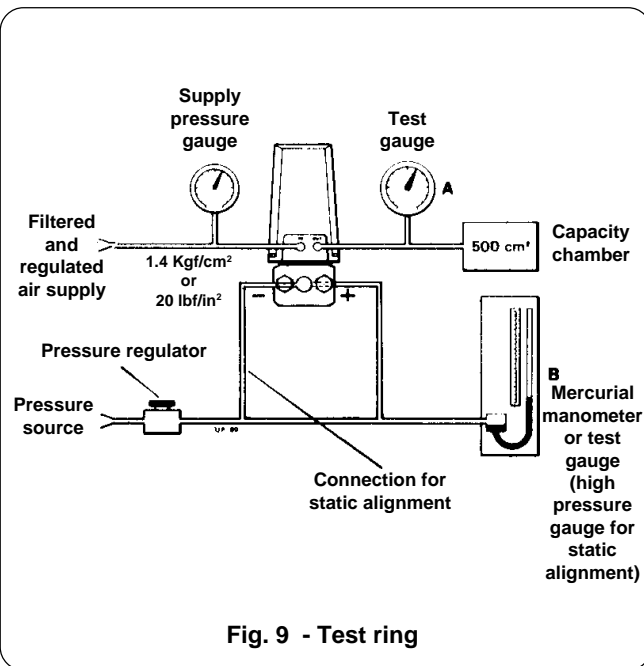

Fig. 9 - Test ring
# CALIBRATION AND ACCURATE SPAN SETTING (Fig. 9)
- a) Connect the above equipment and transmitter as shown in fig. 9.
- a) Set up the transmitter and connect to the test rig (fig. 9). Remove the suppression spring and bracket and check calibration in accordance with "calibration and accurate span setting" sub section.
- a) Set up the transmitter, connect to the test rig (fig. 9) and check calibration as described in "calibration and accurate span setting" section. For this check the elevation bracket and spring must be removed.
- a) Connect the transmitter to the test rig (fig. 9) and remove the elevation spring and bracket from the transmitter. Calibrate in accordance with "calibration and accurate span setting" sub-section to direct output valves.
- Set up the transmitter, connect to the testing (Fig. 9) in the previous sections and disconnect the capsule as described.